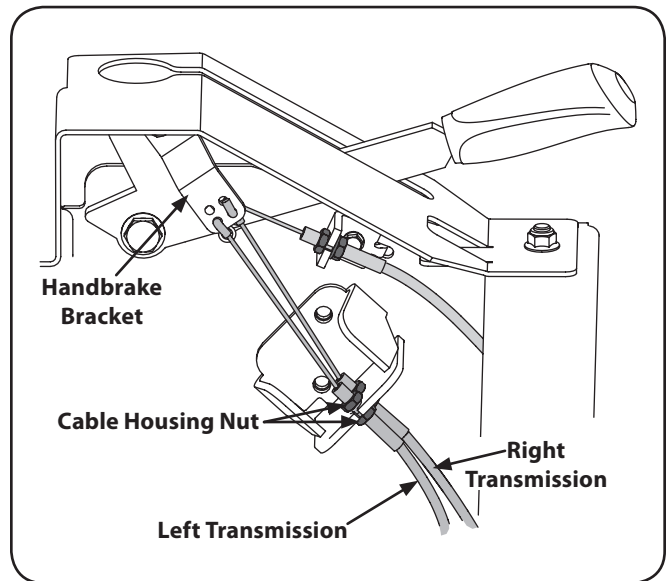

Figure 6-6
2. Adjust the cable housing nuts one full turn and check parking capacity. Repeat if parking brake does not hold. See Fig. 6-6.